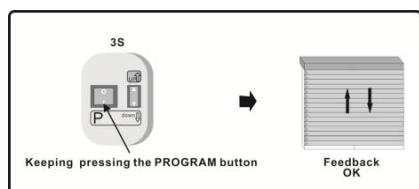

Fig.10
2.3 Initialize the motor by pressing the PROGRAM button 3s -> the motor joggle (one time in both direction). Refer to Fig.10